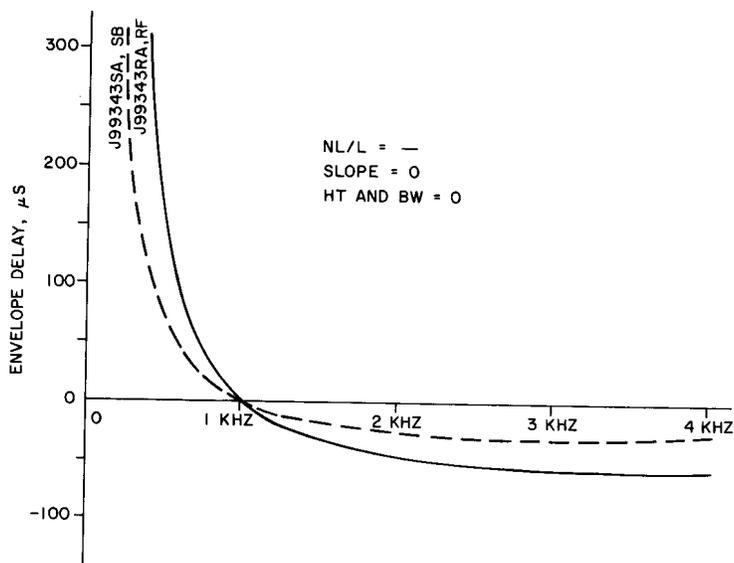

Fig. 17—Relative Envelope Delay Distortion of J99343SA, SB, RA, RF Repeaters—Equalizer Disabled
**6.06** Figure 17 shows the envelope delay distortion characteristic of the repeater with no equalization (SLOPE=0, HT=0). The characteristic is not significantly affected by gain adjustment, but is affected by all equalizer functions.